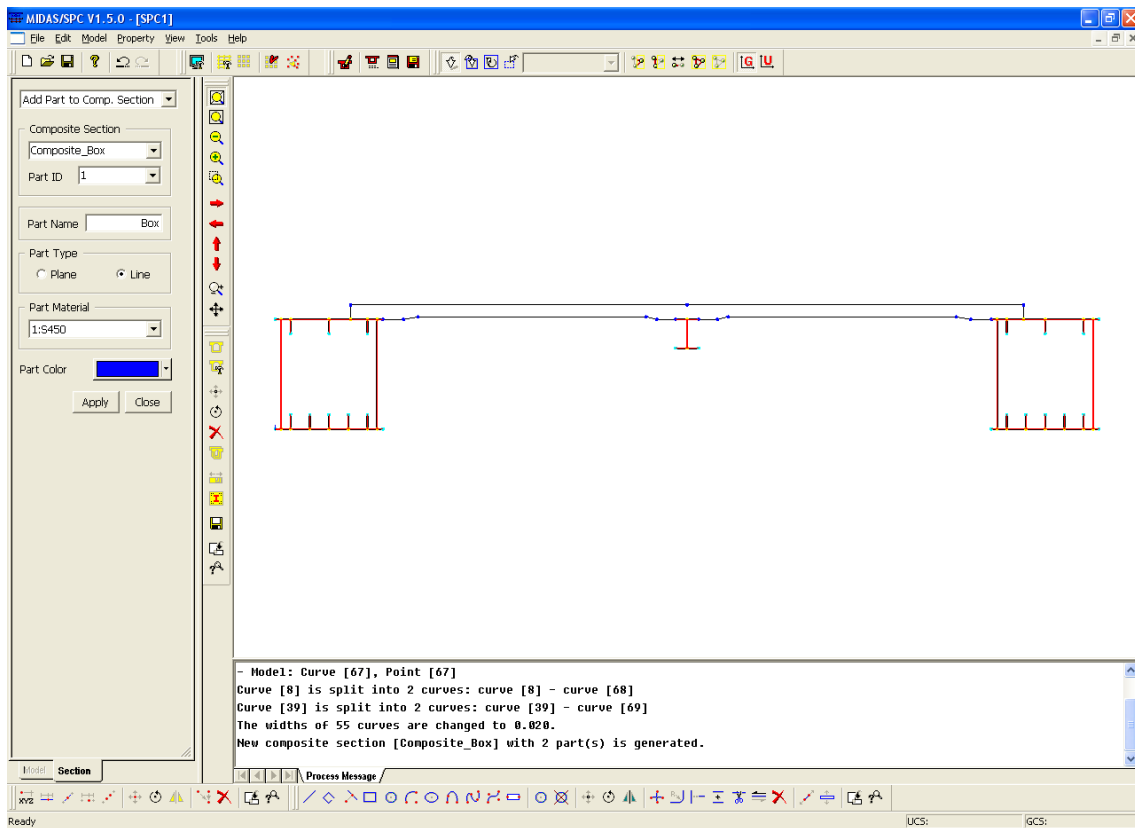

Figure 5: Assigning the Part Type and Name of the Steel Box Girders and Stringer
- ① Enter "1" for *Part ID*
- ② Enter "Box" for the *Part Name* and select "Line" for *Part Type*.
- ③ Select "S450" for the *Part Material*.
- ④ Select the steel box girders and stringer as shown in Figure 5 and click *Apply*.
- ⑤ Repeat steps with *Part ID*: 2, *Part Name*: Deck, *Part Type*: Plane, *Part Material*: C25/30.